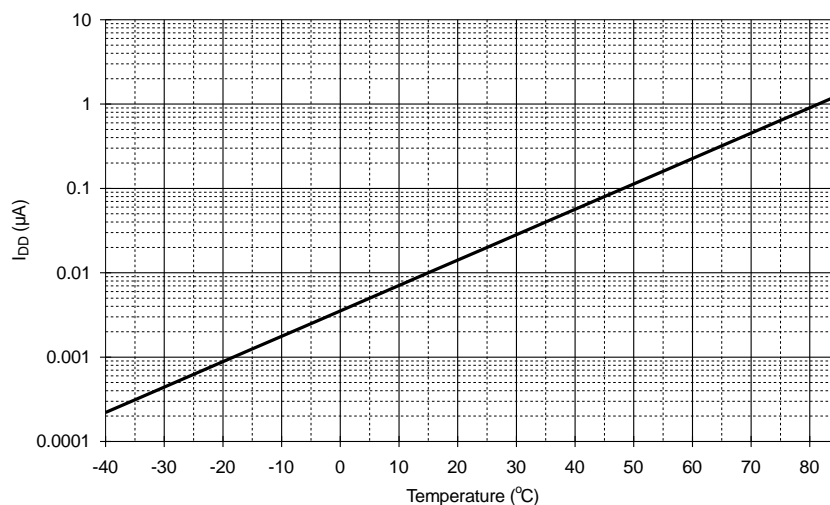

Figure 19: Typical 'Zero Power' I_{DD} vs. Temperature ($V_{DD} = 5.0V$)
2. RD, RXCLK, MODE 2 inputs at V_{SS} , MODE 1 input at V_{DD} . See also Figure 19.